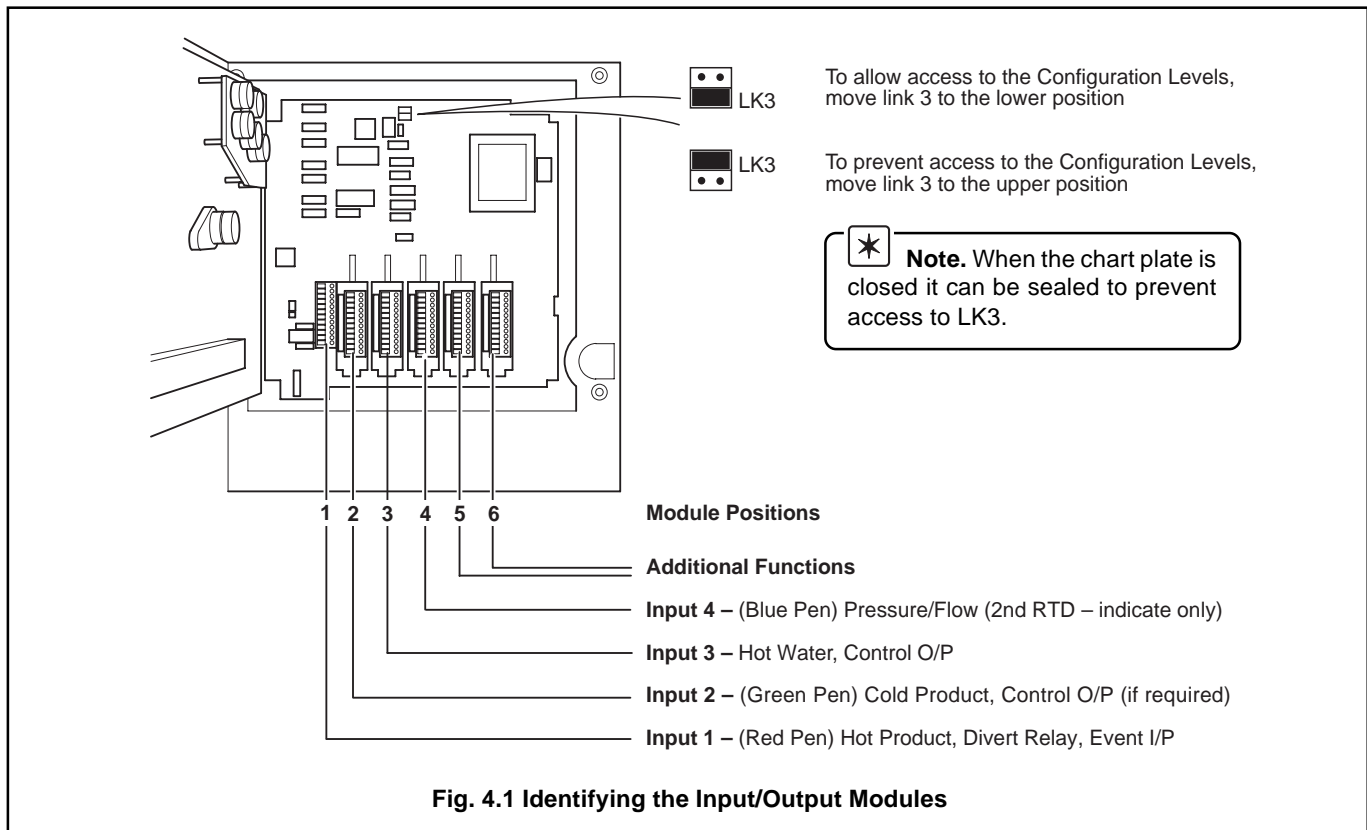

Fig. 4.1 Identifying the Input/Output Modules
Refer to Fig. 4.1 for module positions and identification.
4.1 Identifying the Input/Output Modules (and accessing the Configuration Levels) – Fig. 4.1